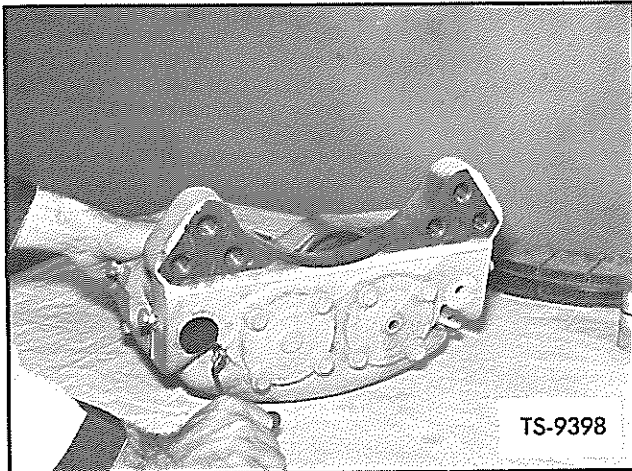

Fig. 15. Open Bleeder Screws
6. Open bleeder screws on both sides of brake head as shown in Figure 15.